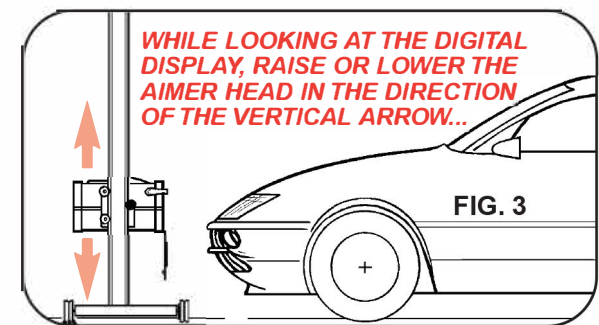

FIG. 3
- Level Aim Head vertically (front to back) and horizontally (side to side) as follows: Vertical leveling can be accomplished by using the Level Vial on the top of the Aim Head and adjusting the Floor Slope Adjust Lever (Fig. 2). Horizontal leveling is accomplished by placing a carpenter level across the front top bezel and adjusting the Horizontal Leveling Cam on the front of the base. (Fig. 3).